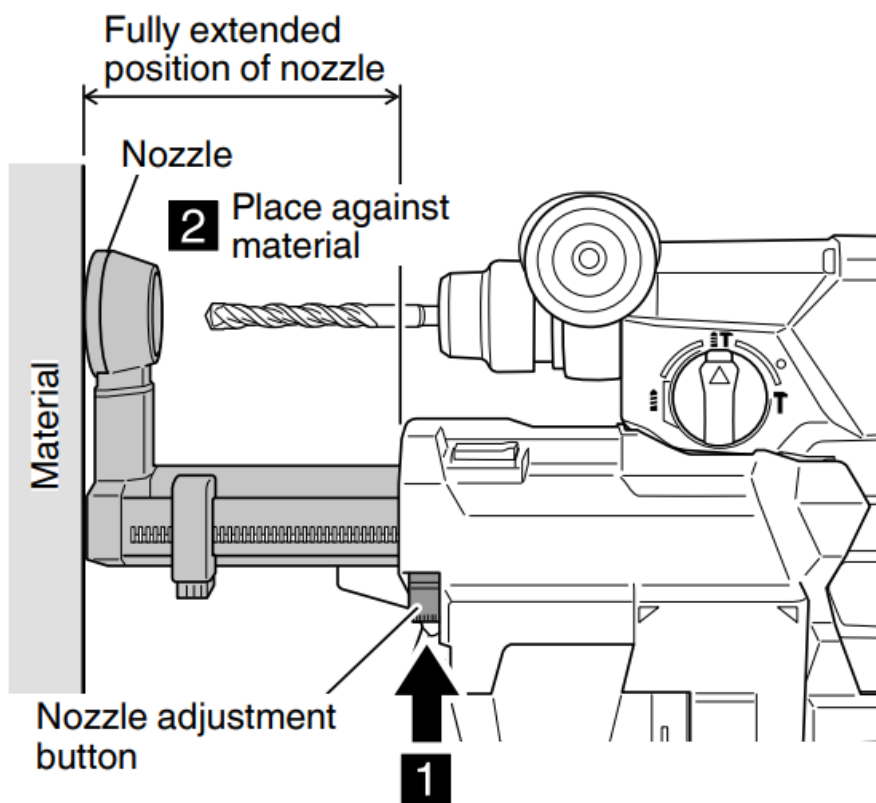

Fig. 5
1. Press the nozzle position adjustment button and ensure that the nozzle is in the fully extended position. (Fig. 5)
2. While holding the tool in a way so that the switch does not get pressed, place the nozzle against the material to be drilled. (Fig. 5)